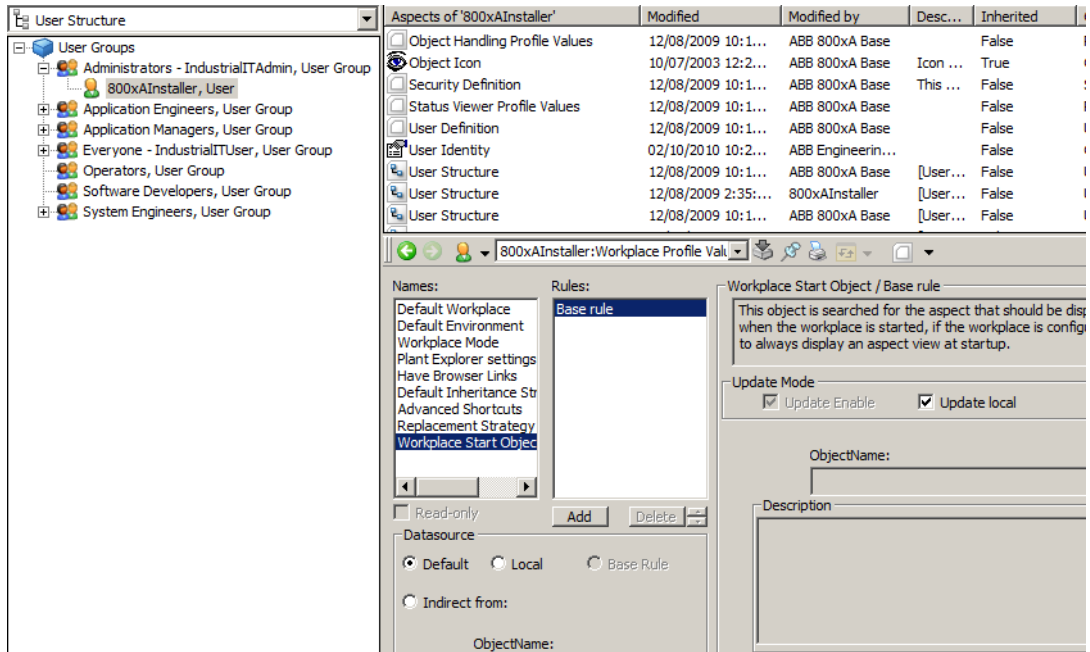

Figure 42. Workplace Start Object
- g. For the **WorkplaceStartObject** mark the **Local** radio button and select a default object name in the **ObjectName** field, see Figure 42. Click **Apply**.